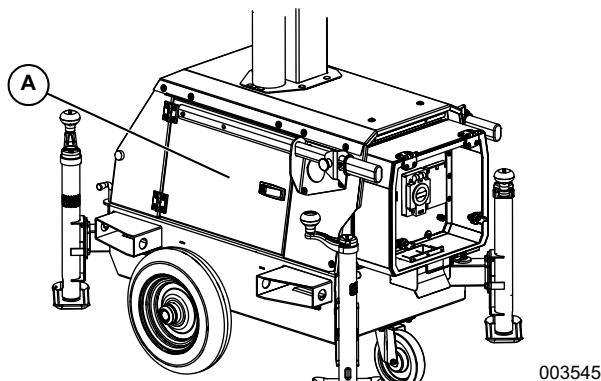

Figure 2-5. Internal Storage
See Figure 2-5. The interior of the cabinet can be used for storing nonflammable items such as shore power cords, small equipment, or tools when the unit is not in operation. Locking doors (A) on each side of the cabinet provide access to the cabinet interior.